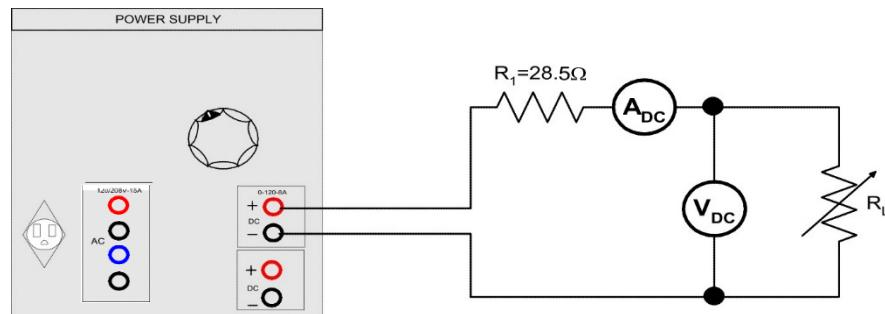

FIGURE 12.13
- Step 7: a) Connect the circuit shown in Figure 12.13. (Disconnect the synchronous motor from the power supply but do not uncouple the motor from the generator).